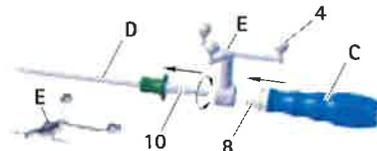

Fig. 6 Mounting the IGS Tool Star Unit and S4C handle (FW067R or FW165R) onto the S4C screwdriver
- Release locking sleeve **8**, see Fig. 6.